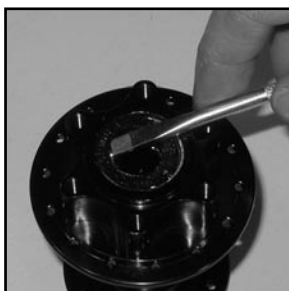

Fig. 5E
6. Insert a thin screwdriver blade under the shell shield (Fig. 5E) and pry off the shell shields from both sides of the hub.